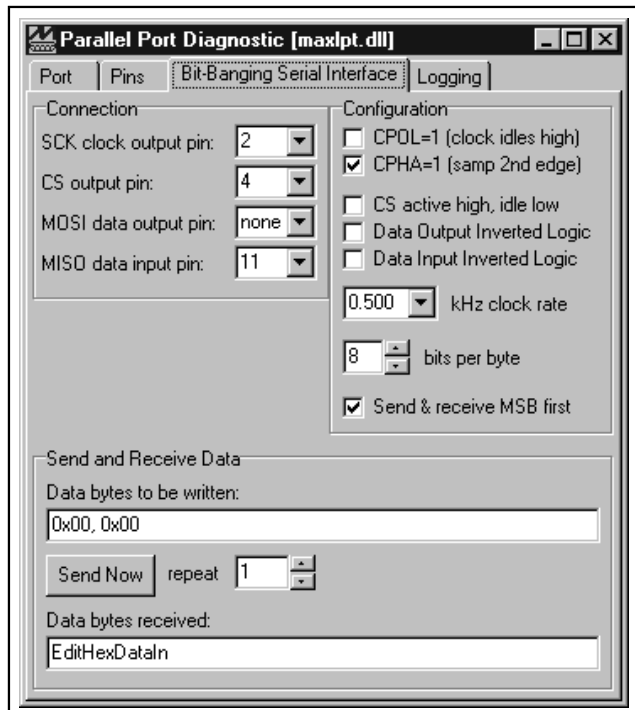

Figure 2. SPI Utility Showing the Settings to Communicate with the MAX6675 EV Kit
There are two methods for communicating with the MAX6675: through the user-interface panel or through the general-purpose **SPI utility**. This utility (Figure 2) configures SPI parameters such as clock polarity (CPOL), clock phase (CPHA), and chip-select (CS) polarity.